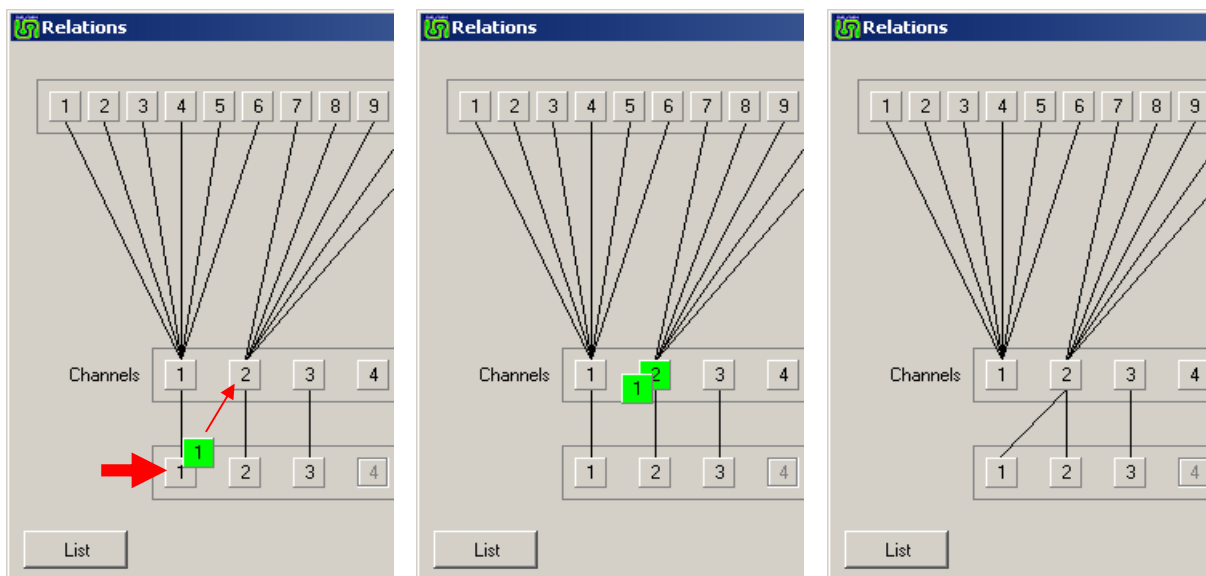

Figure 59. Moving a Central NI between Channels.
The following procedure is an example of moving the Central NI #1 from Channel #1 to Channel #2. The process is very much the same as moving a Station NI and is shown below in **Figure 59**.
4. The line linking Central NI #1 to Channel #1 will move across to Channel #2 as shown in **Figure 59** below.